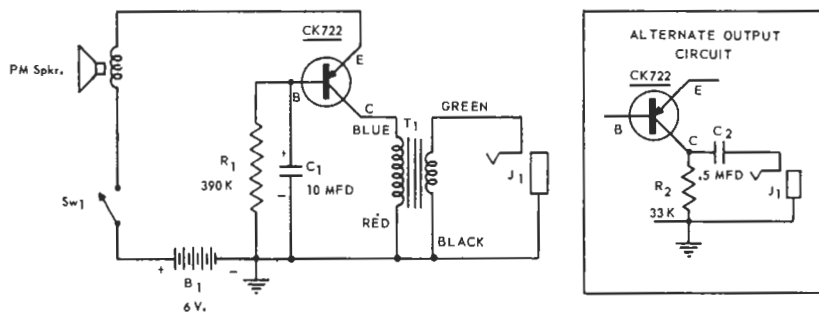

FIG. 5-6
A permanent magnet (PM) electrodynamic loudspeaker makes an excellent low-cost Dynamic Microphone, but has the disadvantages of low signal level and low output impedance. By adding a single-stage transistor amplifier to a standard PM loudspeaker, you can assemble a good quality, high output microphone. A suitable circuit is shown in Fig. 5-6. This instrument may be used with recorders or P.A. systems, or in Ham Radiotelephone work.
Referring to the schematic diagram (Fig. 5-6), a RAYTHEON type CK722 transistor is connected as a common-base amplifier. In operation, the input signal to the emitter-base circuit is supplied by the PM loudspeaker and the amplified output signal is obtained from a small impedance matching transformer (T_1). Base bias current is supplied through base resistor R_1 , bypassed by C_1 , with operating power for the entire circuit supplied by a single 6-volt battery (B_1), controlled by a SPST push-button switch, Sw_1 .
The common-base circuit configuration used in the *Microphone Preamplifier* has a low input impedance and a high output impedance and thus is ideal for this general type of application. Transformer output is provided where the instrument is used with another transistorized instrument. However, if the device is to be connected to a high input impedance vacuum tube instrument, the matching transformer (T_1) may be replaced by a collector resistor (R_2) and D.C. blocking capacitor (C_2), as shown in the *Alternate Output Circuit* (Fig. 5-6).
Two output circuit arrangements are shown in Fig. 5-6. The one to use will depend on the intended application of the completed instrument. If it is to be used with another piece of transistorized equipment having, say, a moderate input impedance, then best results will be obtained with the transformer-coupled arrangement. On the other hand, if the *Microphone Preamplifier* is to be connected to equipment having a high input impedance (50,000 ohms, or higher), then the price of the transformer can be saved and the alternate, resistance-coupled, output circuit used. In either case, a shielded cable is used to connect the instrument to the equipment with which it is employed to minimize noise and hum pickup.